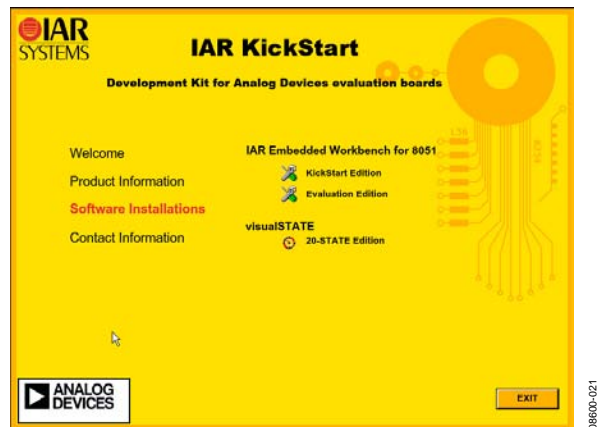

Figure 19. IAR Software Installation
4. Click the **KickStart Edition** option shown in Figure 19.